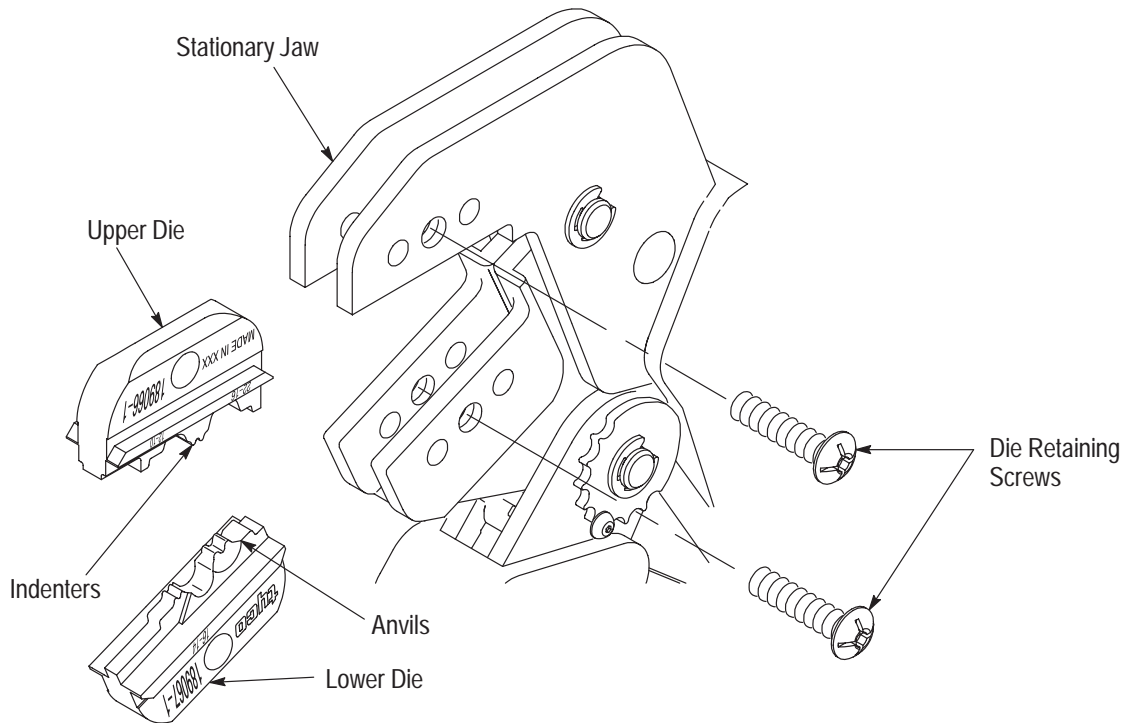

Figure 2
2. Place the upper die in the stationary jaw of the tool frame so that the largest indenter is facing inward. See Figure 2.
4. Place the lower die in the moving jaw of the tool frame so that the largest anvil is facing inward. See Figure 2.
- Added markings to dies in Figure 2